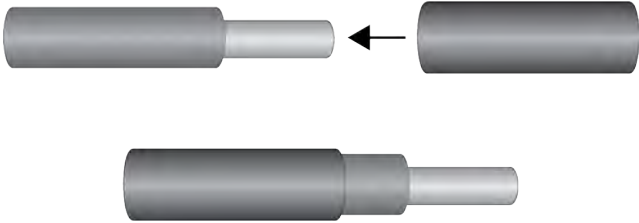

Figure 44. Sliding a Heat-shrink Tube Over the Grounding Wire
- 2. Slide a heat-shrink tube over the grounding wire. Refer to Figure 44